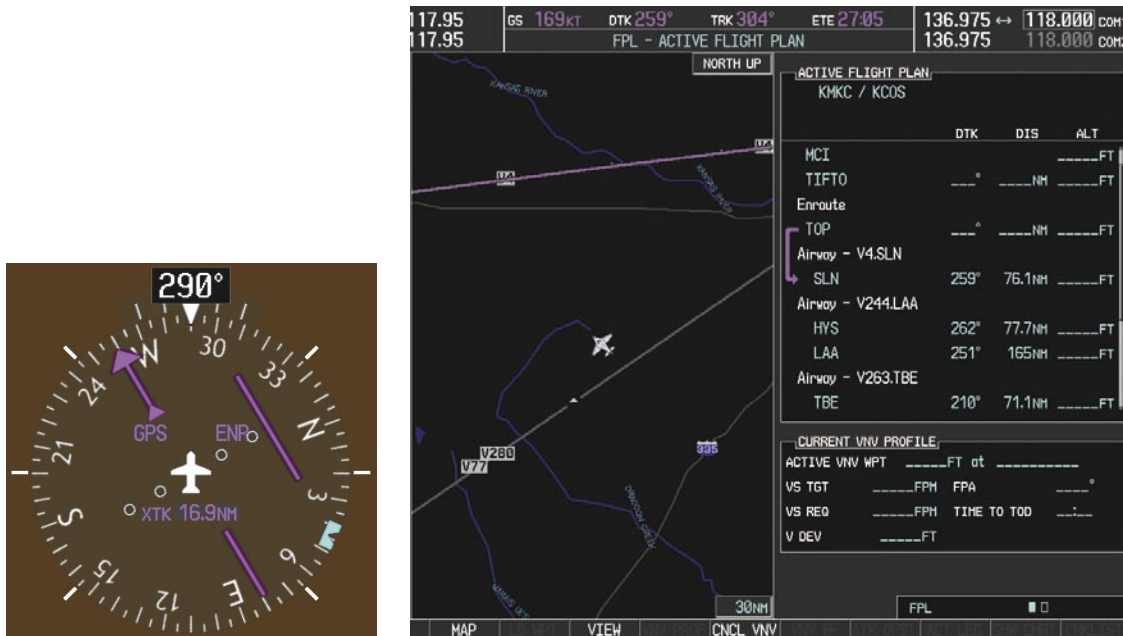

Figure 5-110 V4 Now Active Leg
- d) Verify the displayed leg is the desired leg and press the **ENT** Key. Note in Figure 5-110, the magenta arrow in the flight plan window and magenta line on the map indicating V4 is now the active flight plan leg. Note the phase of flight remained in Terminal (TERM) mode up to this point because a departure leg was active. Since a leg after the departure is now active, the current CDI flight phase is ENR (Enroute) and CDI scaling has changed to 2.0 nm.